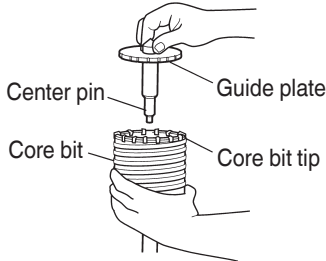

Fig. 18
- (3) Insert the center pin into the guide plate until it stops.
- (4) Engage the guide plate with the core bit, and turn the guide plate to left or right so that it does not fall even if it faces downward. (Fig. 18)